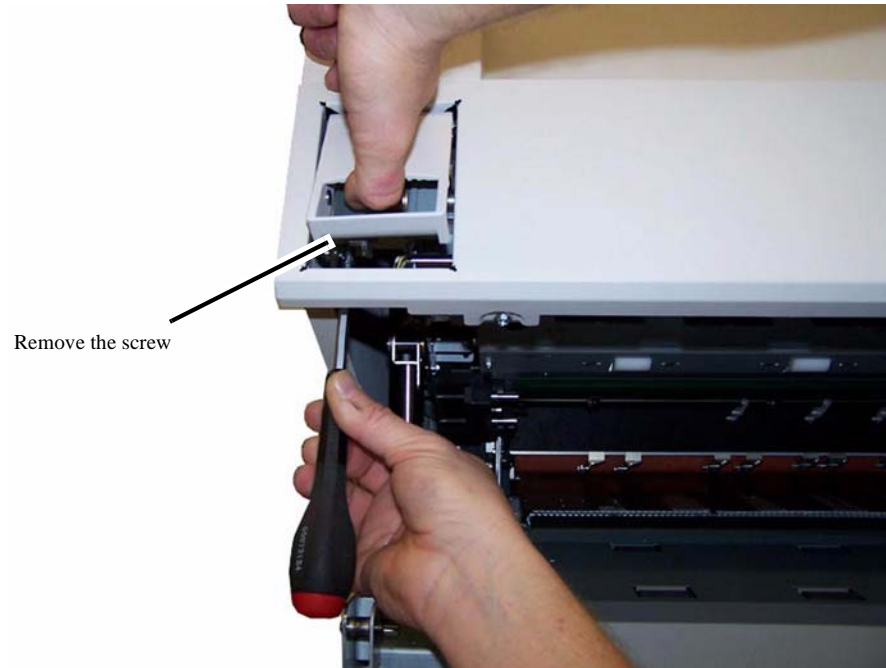

Figure 1 Removing the front mounting screw
2. Remove the front mounting screw. Lift the latch to see the screw location (Figure 1).